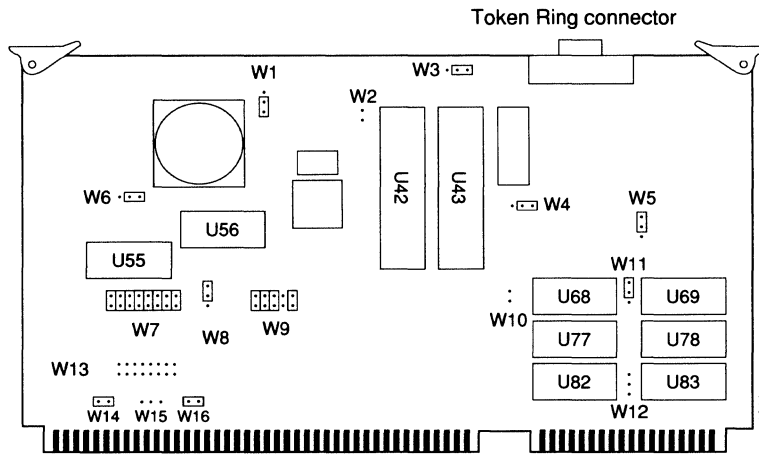

Figure 5-30 CSC-R Card — Component Side View
- Step 4:** Figure 5-30 shows the location of the 16 jumpers and the firmware ROMs.